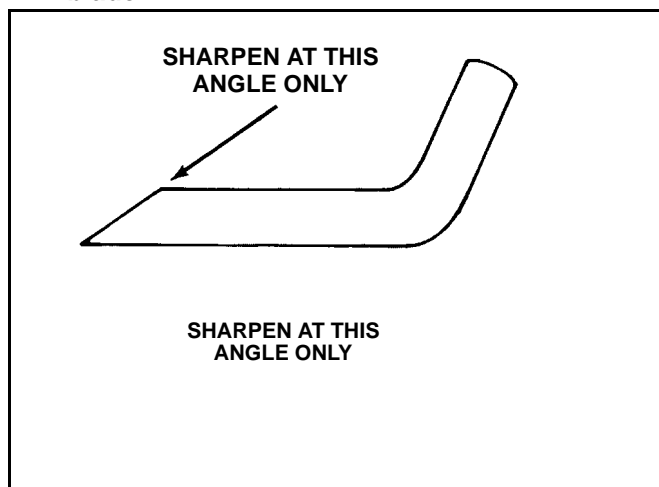

Figure 32
5. SHARPENING BLADE — Using a file, sharpen top side of blade and maintain original cutting angle (Figure 32). The blade will remain balanced if same amount of material is removed from both cutting edges.